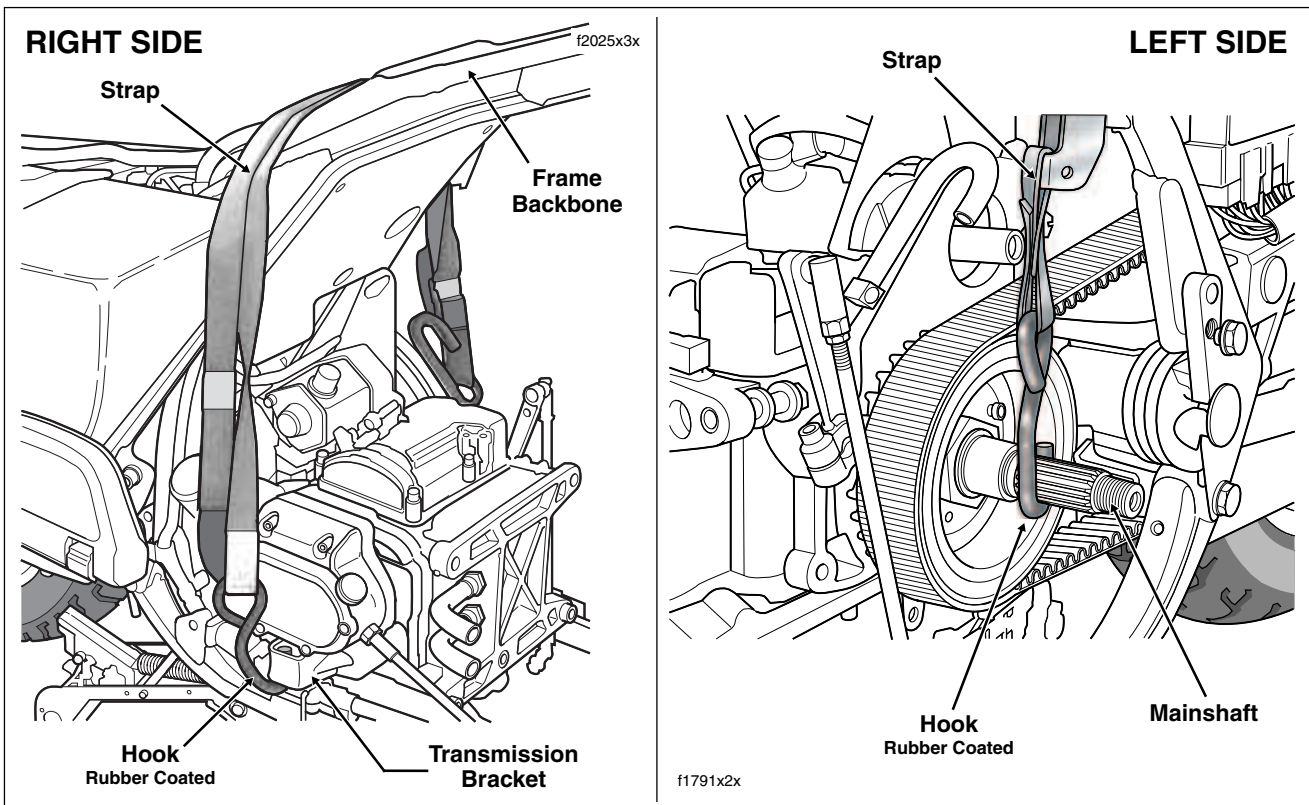

Figure 3-15. Secure Transmission Using Transmission Exhaust Bracket and Mainshaft
- a. Use a tie down strap to hold the transmission. Lay strap over frame backbone placing one rubber coated hook through the transmission exhaust bracket on the right side of the motorcycle and the other around the mainshaft on the left. Using buckle, tighten strap until taut. See Figure 3-15.